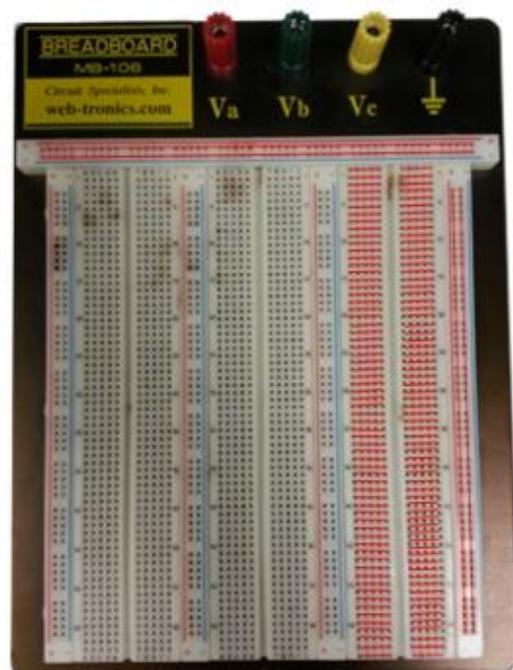

Figure 1
- C. The red lines in Figure 1 show how vertical columns and horizontal rows are internally connected.